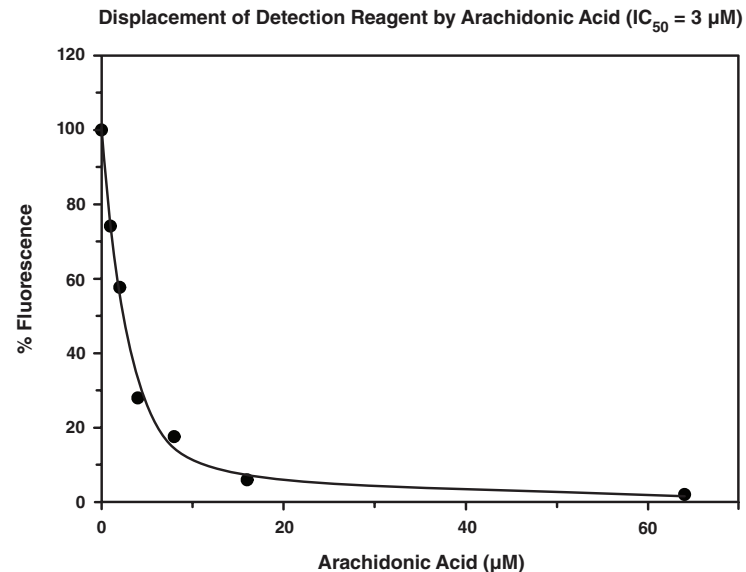

Figure 3. Typical displacement curve
4. Plot the % FU values (from step 3 above) against the concentration of inhibitor/ligand used. An example is given in figure 3, on page 15.